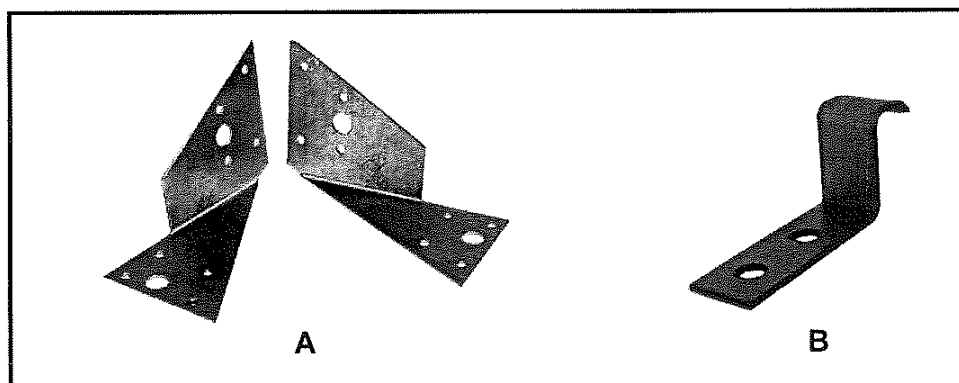

FIGURE 4.6
- 4.6 FIGURE 4.6 below shows two different fixtures used in roofing. (4)